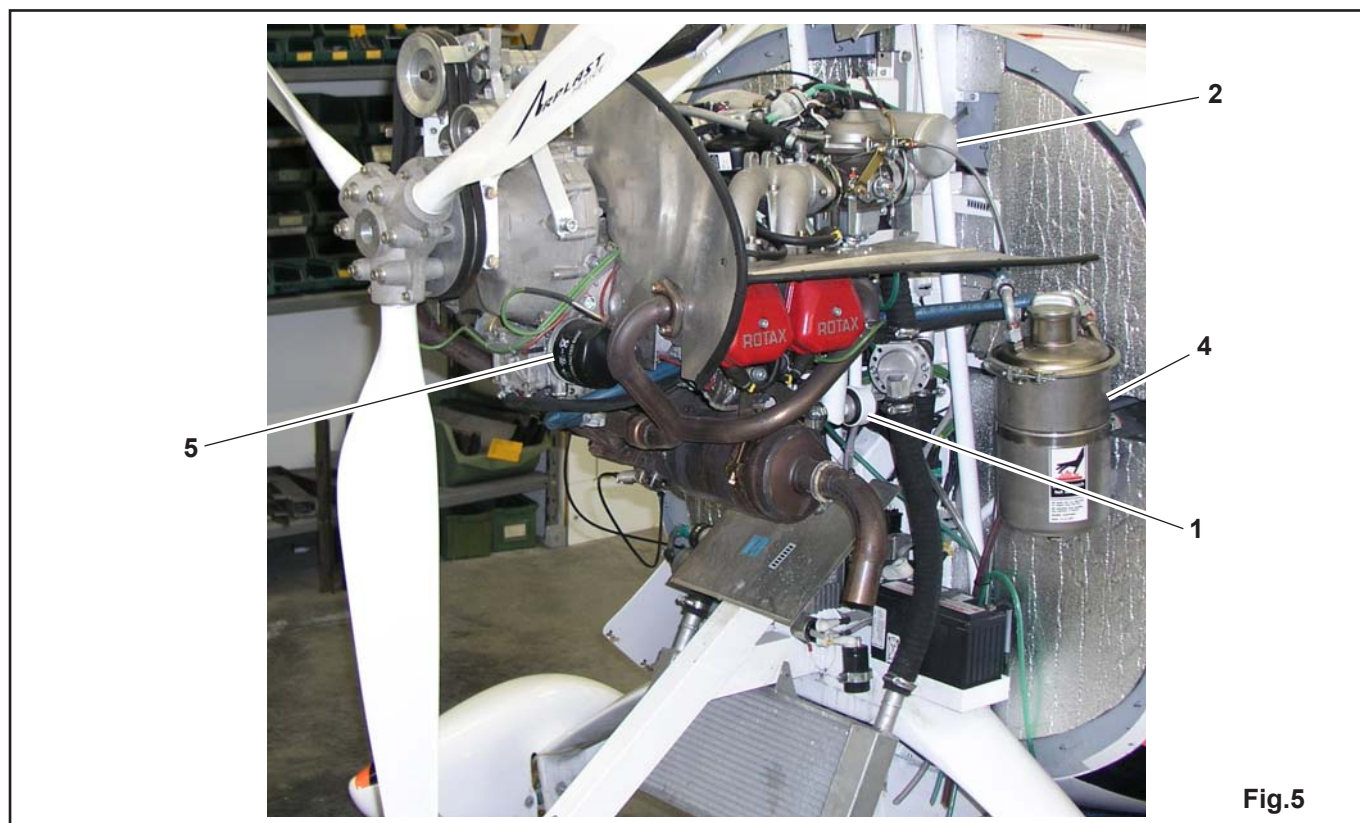

Fig.5
12. ENGINE MOUNT, RIGHT HAND SIDE (Fig. 5)
13. ENGINE, RIGHT HAND SIDE (Fig. 5)